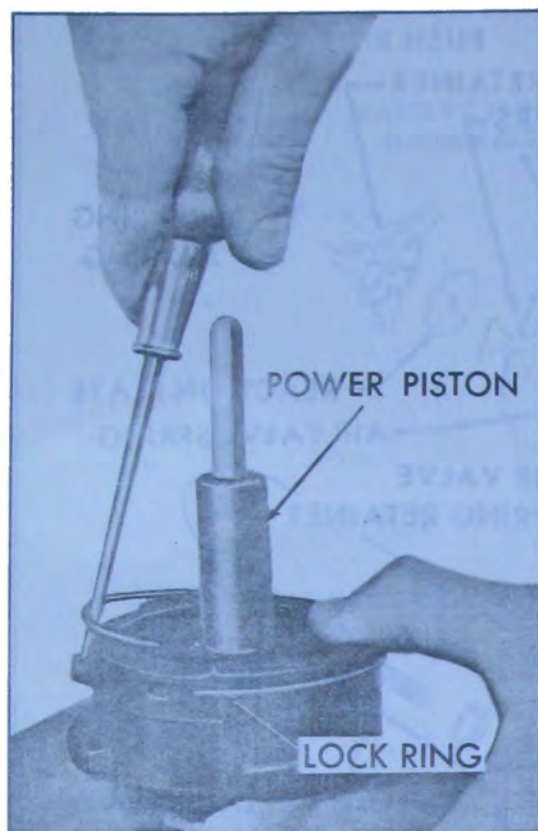

Figure 50-55—Removing Lock Ring from Power Piston
3. Remove lock ring from power piston by prying one of end out from under large divided locking lug and then proceed to pull ring from under other two locking lugs on power piston. See Figure 50-55.